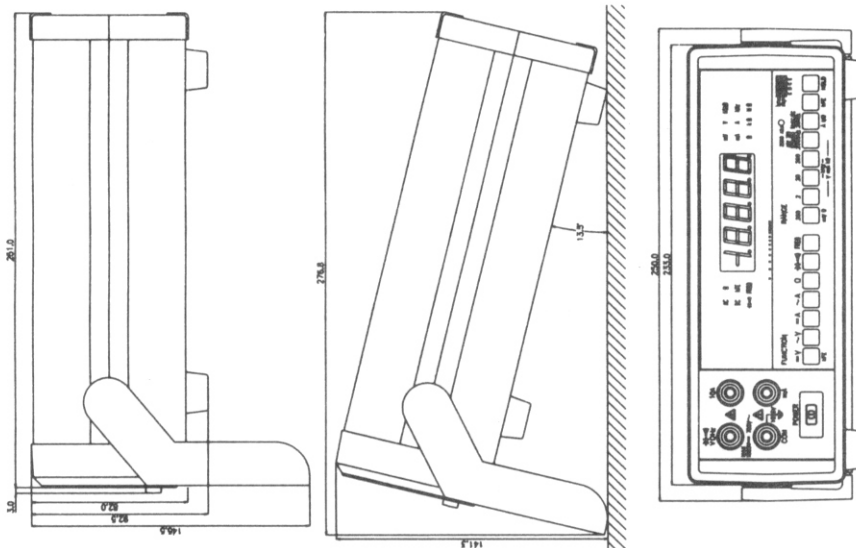

FIG 3-1. DIMENSIONS OF DM-441B
- ⊙ Dimensions : 25.0cm 9.25cm 25.1cm (See FIG 3-1.)